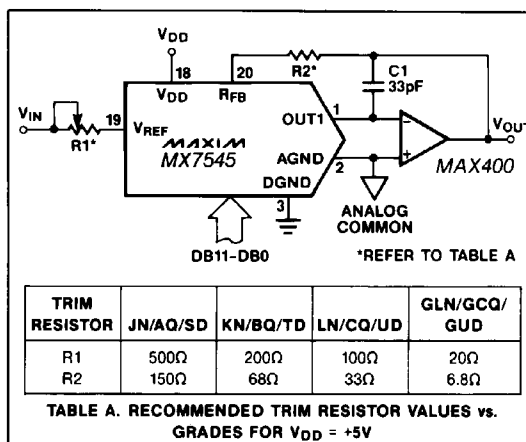
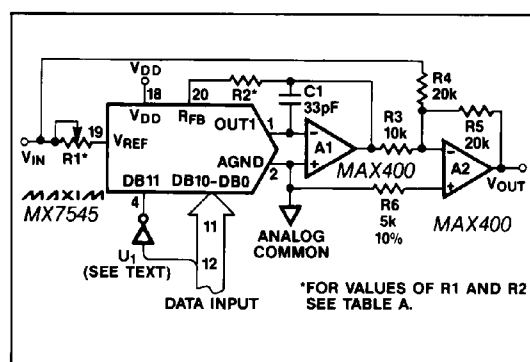
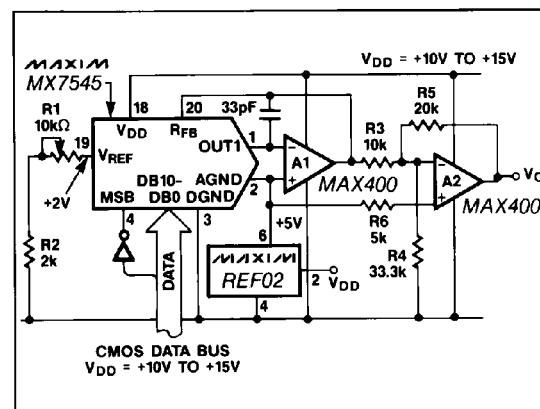

Figure 3. Unipolar Binary Operation
Figure 4. Bipolar Operation (2's Complement Code)
Figure 8. Single Supply "Bipolar" 2's Complement D/A Converter
**Note 1:** Using internal feedback resistor, RFB. DAC register loaded with 1111 1111 1111. Gain error is adjustable using the circuits of Figures 3, 4 and 8.
Either current output can be converted into a voltage externally by adding an output amplifier (Figure 3). The  $V_{REF}$  input accepts a wide range of signals including fixed and time varying voltage or current inputs. If a current source is used for the reference input, then a low temperature coefficient external resistor should be used for  $R_{FB}$  to minimize gain variation with temperature.
The most common configuration for the MX7545 is shown in Figure 3. This circuit is used for unipolar binary operation or two-quadrant multiplication. The
Table 1. Unipolar Binary Code Table for Circuit of Figure 3
In many applications the gain adjustment will not be necessary, especially when using the "G" suffix parts with guaranteed maximum  $\pm 1$  LSB gain errors. In those cases and also when the gain is trimmed at the reference source, resistors R1 and R2 in Figure 3 can be omitted. However, if the trims are desired and the DAC is operated over a wide temperature range, then low tempco ( $<300ppm/^{\circ}C$ ) resistors should be used for R1 and R2.
With the circuit configuration shown in Figure 4, the MX7545 operates in the bipolar, or 4-quadrant multiplying mode. A second amplifier and three matched resistors, R3, R4 and R5 are required. These resistors must be of the same material (preferably metal film or wire-wound) for good temperature characteristics, and they should match to 0.01% for 12-bit performance.
Table 2. 2's Complement Code Table for Circuit of Figure 4
To adjust the circuit with offset binary code, load the DAC with a code of 1000 0000 0000 and trim R1 for a 0V output. With R1 and R2 omitted, an alternative zero trim is to adjust the ratio of R3 and R4 for 0V out. Full scale can be trimmed by loading the DAC with all "zeros" or all "ones" and adjusting the amplitude of  $V_{REF}$  or varying R5 until the desired positive or negative output is obtained. In many applications the gain adjustment will not be necessary, especially when using the "G" suffix parts with guaranteed maximum  $\pm 1$  LSB gain errors. In those cases and also when the gain is trimmed at the reference source, resistors R1 and R2 in Figure 4 can be omitted. However, if the trims are desired and the DAC is operated over a wide temperature range, then low tempco ( $< 300\text{ppm}/^\circ\text{C}$ ) resistors should be used for R1 and R2.
Figure 6. Differential Nonlinearity vs.  $V_{DD}$  for Figure 4 Circuit. Reference Voltage = 2.5 Volts. Shaded Area Shows Range of Values of Differential Nonlinearity that Typically Occur for L, C and U Grades.
The unipolar and bipolar circuits in Figures 3 and 4 can all be converted to voltage output mode. For example, Figure 8 shows the 2's complement bipolar circuit of Figure 4 modified to work with an output range of +2V to +8V around an offset ground potential of +5V from a single supply,  $V_{DD}$ , of +10V to 15V. The REF02 reference is used to bias the AGND at +5V. The R1 and R2 resistors form a voltage divider together
Figure 7. Differential Nonlinearity vs. Reference Voltage for Figure 4 Circuit.  $V_{DD}$  = 15 Volts. Shaded Area Shows Range of Values of Differential Nonlinearity that Typically Occur for L, C, and U Grades.